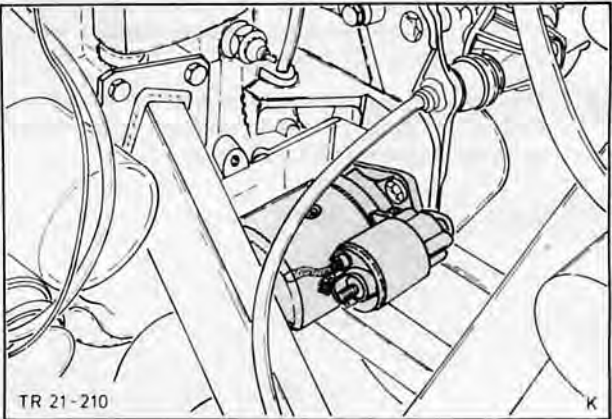

Fig. 20. Starter motor fitted in position ('B' engine)
19. Fix exhaust pipe to exhaust manifold with seal and retaining flange. Refit starter motor and connect starter motor lead, Fig. 20.